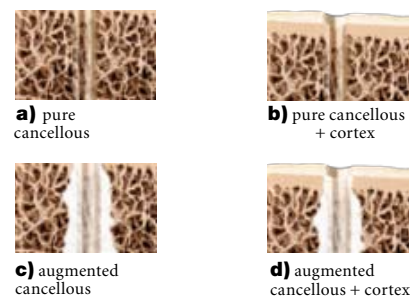

Fig. 2
- d) screw purchase through augmented cancellous bone and traversing cortical layer (Fig. 2).
Mix the liquid and powder thoroughly in a circular motion for 45 seconds, ensuring that all the solution has been distributed throughout the powder (Fig. 2). Compress the material against the sides of the bowl until a homogeneous, consistent paste is achieved.